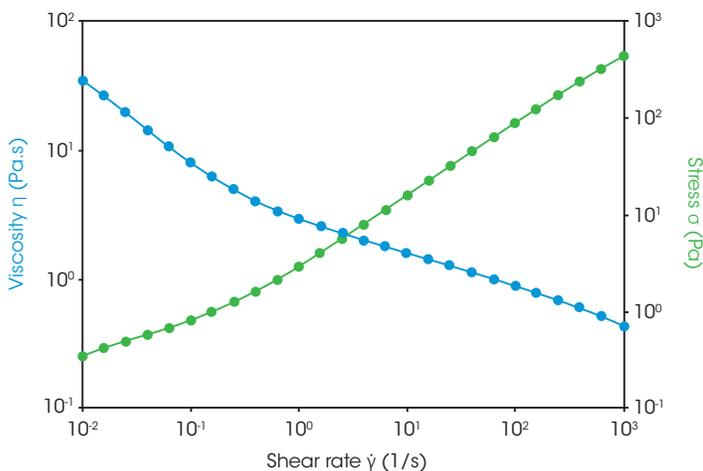

Figure 1. The viscosity of anode slurry over a wide range of shear rate
Understanding the formulation stability and flow behavior of the battery slurry is critically important for electrode manufacturing. Some manufacturers choose to use a low-end viscometer with single point analysis, which is not sufficient because it cannot fully reflect the flow property of the slurry. Two formulations may have the same viscosity at a single point shear rate, but they can have significant differences in their stability and coating performance. Slurries are shear thinning, its viscosity decreases with increasing shear rates. Figure 1 shows the rheological viscosity testing results of a battery anode slurry over a wide range of shear from 10⁻² to 10³ 1/s, representative of the die slot coating process used in electrode manufacturing. The testing results indicate that this slurry exhibits shear thinning behavior. Table 1 shows the summary slurry viscosity over the shear rates, which provides important guidance to slurry formulation and the coating processing conditions. A good formulation should have a lower high-shear rate viscosity, which ensures an easy and homogeneous coating on the collector; while remaining a higher low-shear rate viscosity to ensure slurry stability (2).